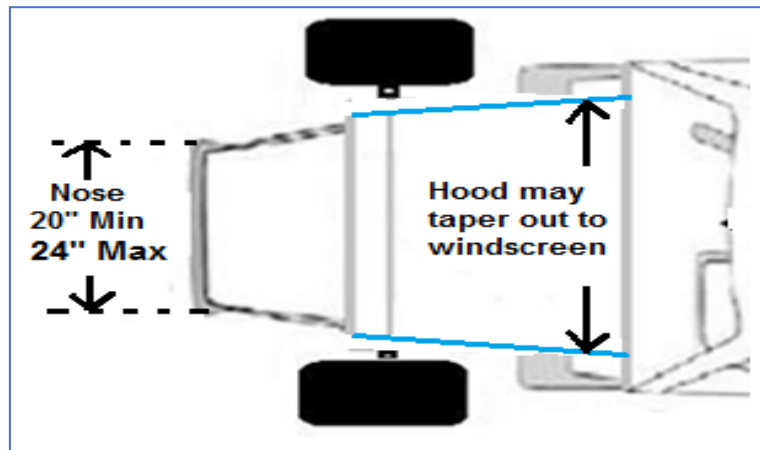

Figure 6
8.3 No part of the nose section 8 inches in front of the lower ball joint, may be wider than 24 inches or narrower than 20 inches (**No tolerance**) (*Figure 6*). (Cars manufactured prior to the 2018 production year with the narrow nose will be grandfathered).
8.4 Rear of hood may taper out to door panels (*Figure 6*).
- 24.8** Front engine area frame and nose width must be between 24 inches max and 20 inches min outside dimension (*Figures 6 & 17*). (Cars manufactured prior to the 2018 production year with the narrow nose will be grandfathered).